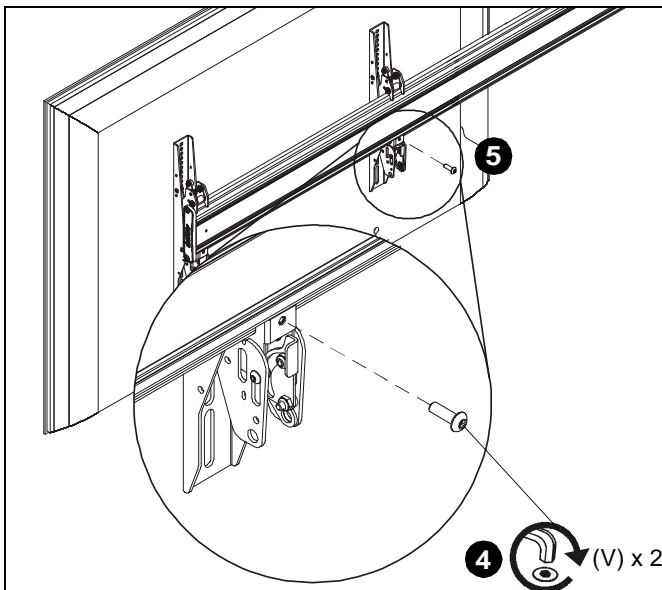

Figure 22
4. Fasten bracket against ceiling mount extrusion using one 10-24 x 5/8" button head cap screw (V). (See Figure 22)